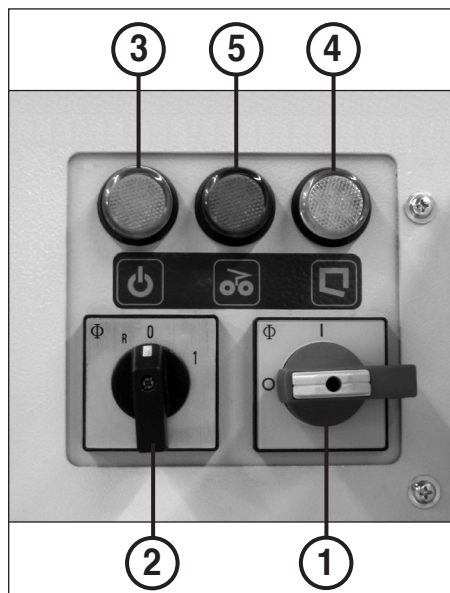

fig. 11
1. The cutting system becomes jammed. The pilot lamp (4) (fig. 11) lights up.
Redistribute returned material and continue shredding with a smaller amount of material. The machine must first be switched off with the rotary switch (2) (fig. 11) (position "0"), and then back on again (position "1") to this end.